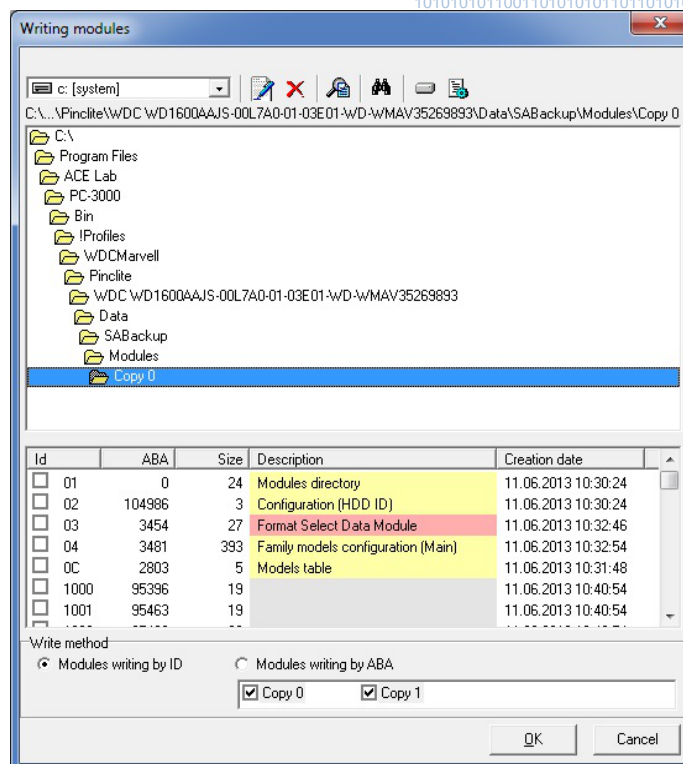

Fig. 2.18.
**Step 3:** Now you have to record the modules of the patient drive to the donor drive. Recording should be performed in 2 stages. During the first stage we write just the module ID=01h (Fig. 2.18).